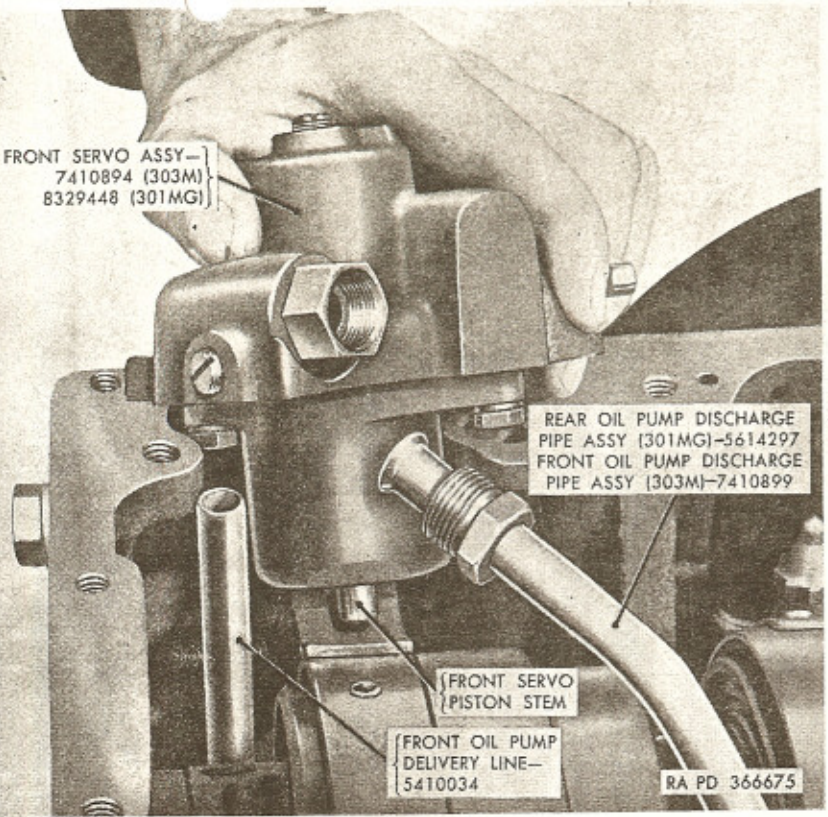

Figure 200. Installing front servo assembly.
b. Insert front oil pump delivery line (fig. 200) in passage of front pump.
e. Position front servo with piston stem in slot at end of front band, and front oil pump delivery line aligned with passage in servo body (fig. 200).